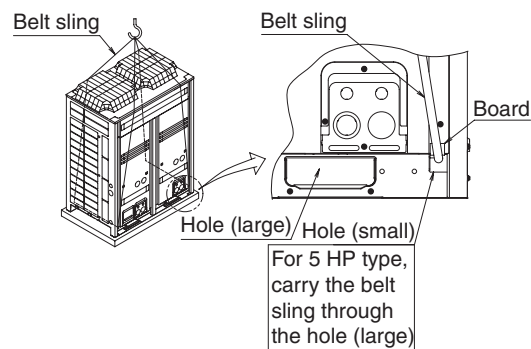

figure 6
4. If hanging the unit, use a cloth sling to prevent damaging the unit. Keeping the following points in mind, hang the unit following the procedure shown in figure 6.
5. After installation, remove the transportation clasp attached to the large openings. **(Refer to figure 6)**